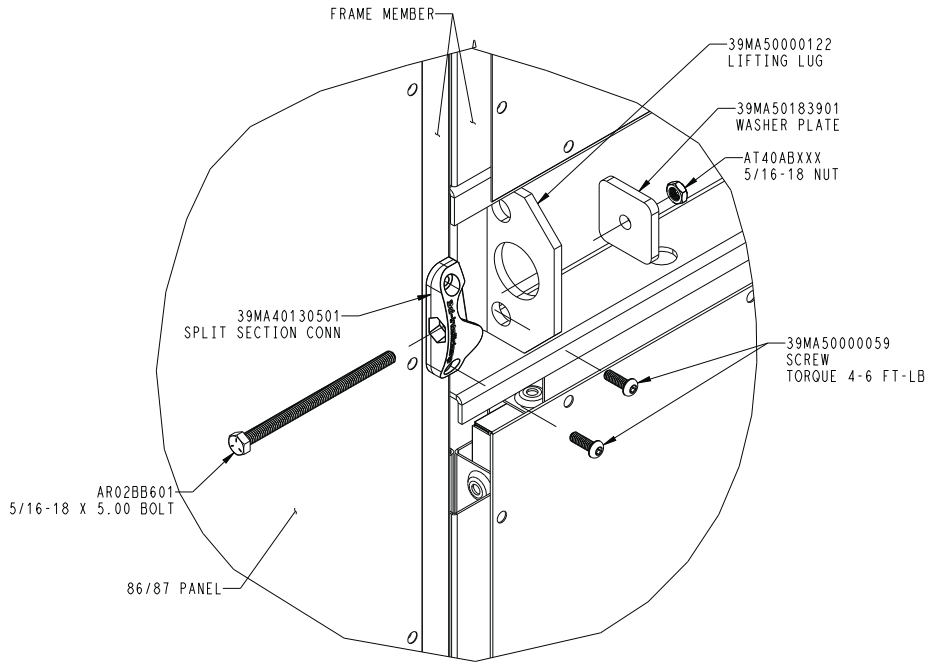

Fig. 167 — Secure ERV Wheel on 6 in. Baserail
10. Secure the ERV wheel section frame intelliclamp to the supply air module 6 in. base rail as shown in Fig. 167.
15. Secure the ERV wheel section frame intelliclamp to the exhaust air module 6 in. baserail as shown in Fig. 167.
18. Secure the ERV wheel section frame intelliclamp to the outside air module 6 in. baserail as shown in Fig. 167.
Apply caulk/sealant over the seam of every frame to frame connection at unit splits as shown in Fig. 167 and 168.